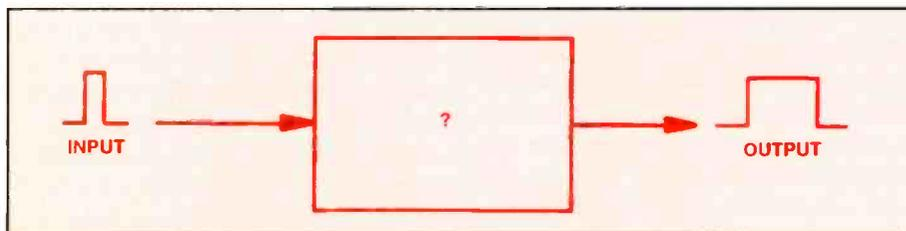

Figure 2. What type of multivibrator, “?” is represented in this circuit?
4. What type of multivibrator circuit (marked “?”) is shown in Figure 2?